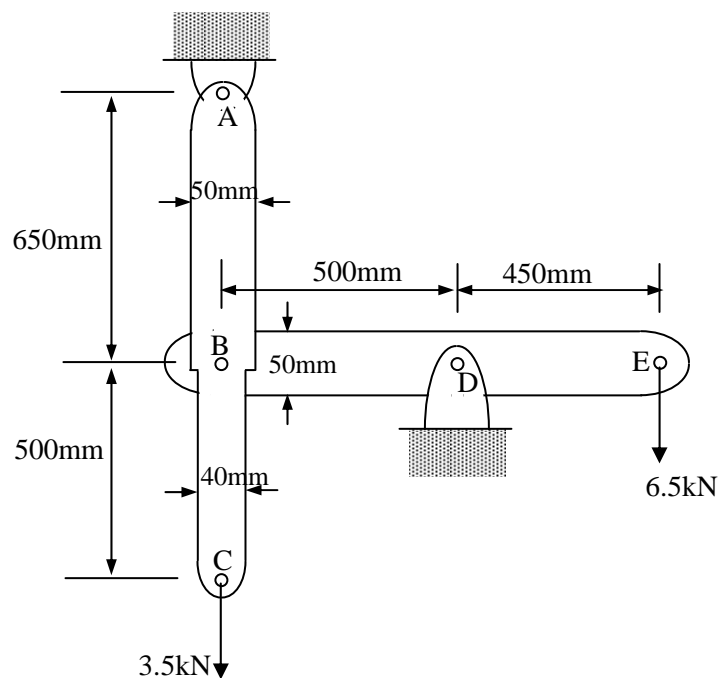

Figure 1
1. Figure 1 shows a vertical bar ABC which is pin supported at its upper end A and loaded by a force of 3.5kN at its lower end C. A horizontal rigid bar BDE is pinned to the vertical bar at joint B and supported by a pin joint at D. Pin at B is designed to be in single shear with diameter of 12.5mm. Figure 2 shows the detail of bolt connection at joint D. The beam is loaded by a force 6.5kN at end E. The vertical bar ABC is made of steel portion AB and aluminium portion BC with modulus of elasticity given as follows: for steel $E_S = 210\text{GPa}$ and for aluminium $E_A = 72\text{GPa}$. Sizes of cross-section for portion AB and BC of vertical bar are as follows: portion AB – 50mm (width) and 10mm (thickness); portion BC : 40mm (width) and 10mm (thickness). For beam BDE, the size of cross-section is as follows : 50mm (width) and 10mm (thickness).